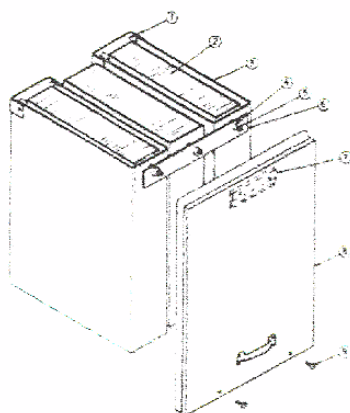

Fig. 3 - Method of Attaching Barrier Assemblies
3.3 REMOVING INTERPHASE BARRIERS (See Figure 3)
3.9 INSTALLING INTERPHASE BARRIERS (See Figure 3)